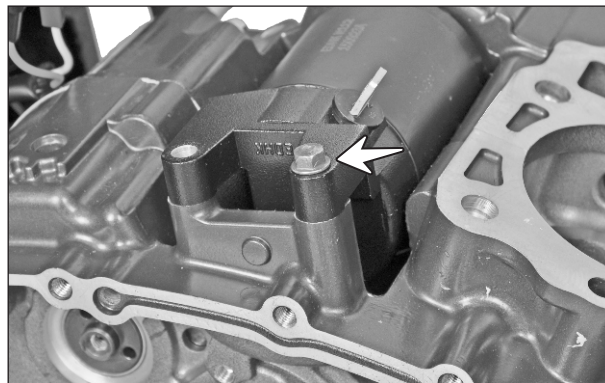

Fig. 3.124
- Remove the hexagonal flange bolt (M6x25 - 1 no.) from the starter motor and remove the motor assembly starter along with a 'O' ring. (Fig. 3.124)